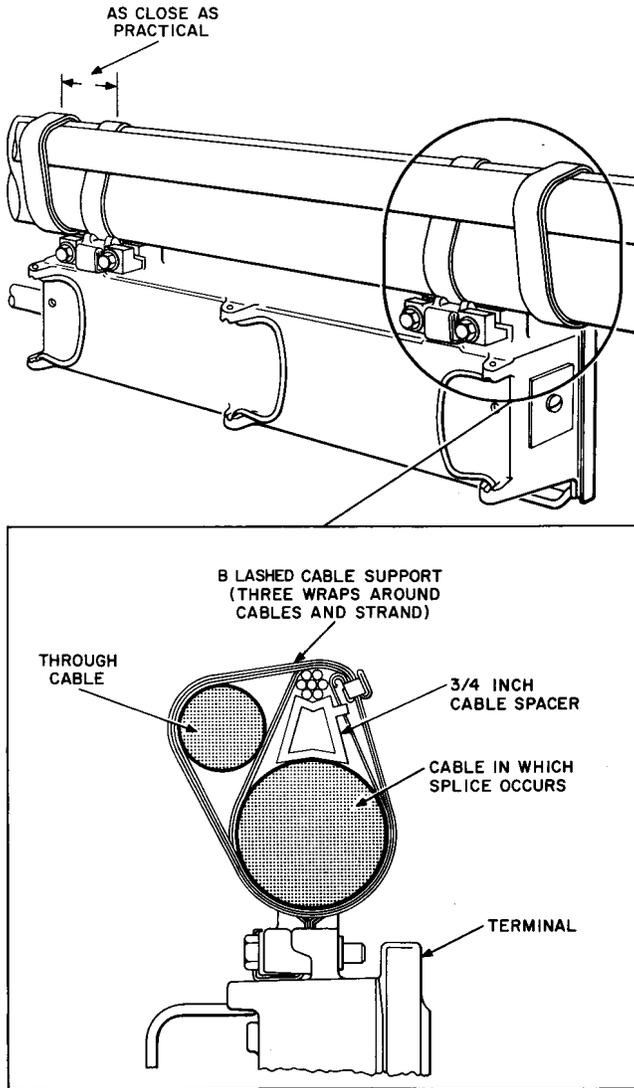

Fig. 13—Supporting Additional Cable at Sheath-Mounted Terminal
5.03 At sheath-mounted terminal locations, place 3/4-inch cable spacers on the cable in which the terminal splice occurs and remount the terminal. Position the other cable along the side of the spacers and support them with two B lashed cable supports positioned outside of and as close as practical to the terminal mountings as shown in Fig. 13.